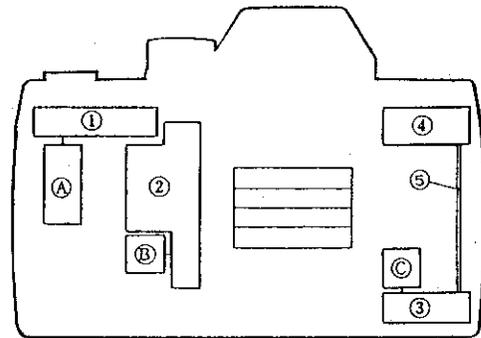

Fig.1 Layout of Units
**(1) Body Structure**
The main driving units and their layout are as shown in Fig.1. ① is the Film Winding Mechanism, ② the Quick Return Mechanism and ③ and ④ the Film Rewind Mechanism. These units are provided with their own motors which are designed to give appropriate torques, respectively.